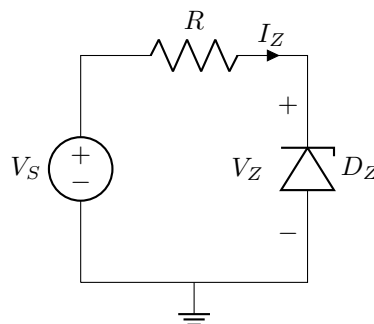

Figure 3: Zener diode characteristic measurement circuit. The Zener diode is reverse-biased with the cathode toward the positive supply.
You will now investigate the voltage regulation properties of a Zener diode operating in its breakdown region. Construct the circuit shown in Figure 3 using your Zener diode and a $100\ \Omega$ resistor. Pay careful attention to the polarity: for the Zener to operate in breakdown, its cathode (the marked end) must be connected toward the positive terminal of the supply through the resistor, and its anode must be connected to ground. This is the reverse of normal diode operation.
4. For the Zener circuit in Figure 3, assume $V_S = 10$ V, $R = 100\ \Omega$, and $V_Z = 5.1$ V (and assume this voltage remains constant in breakdown). Calculate (a) the current through the Zener diode, (b) the power dissipated by the Zener diode, and (c) determine whether this exceeds a 1 W power rating. Show all work.
5. Explain in your own words the difference between static (DC) resistance and dynamic (small-signal) resistance of a diode. Write the mathematical expression for calculating each type of resistance.